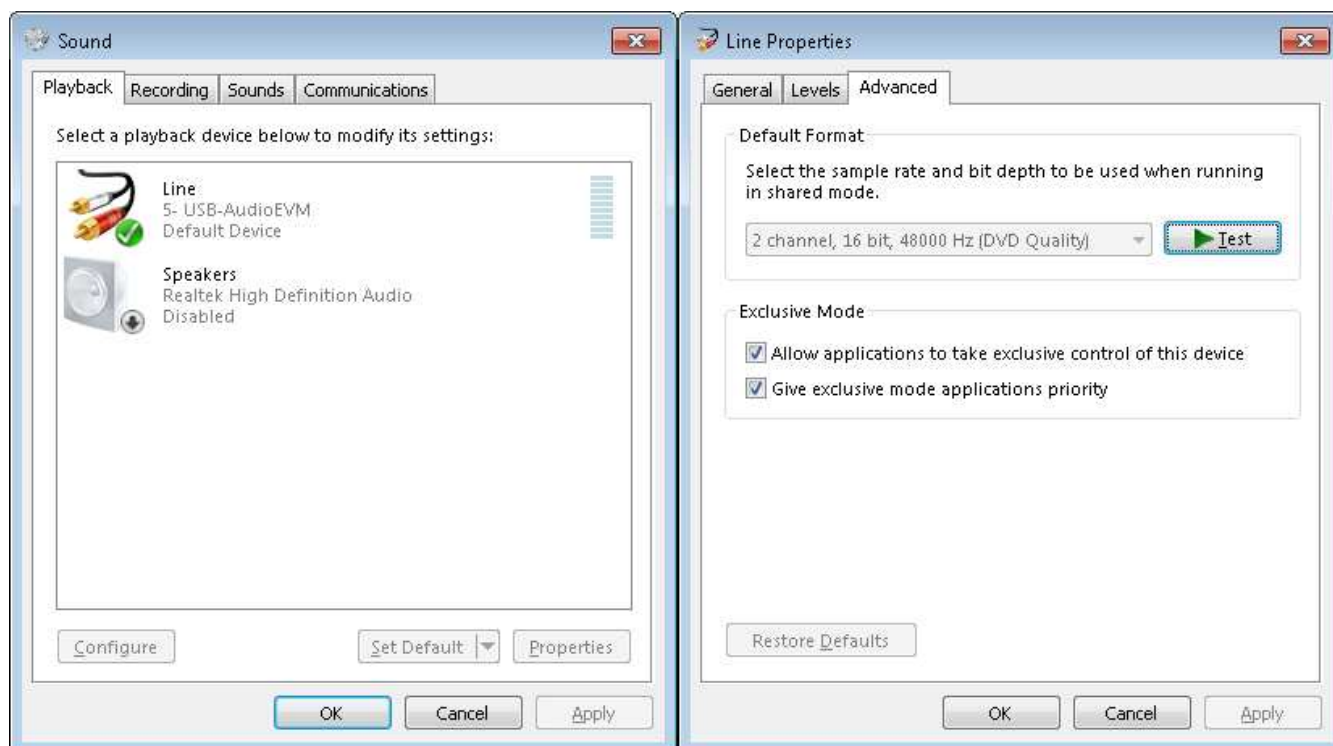

Figure 2. Setting Default Playback Device
- Verify that the EVM is the default playback device by opening the sound dialog from the Windows Control Panel as shown in Figure 2.
7. Play the test tone as shown in Figure 2.